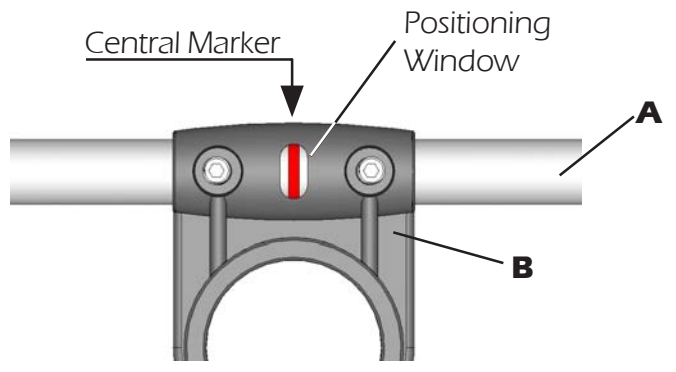
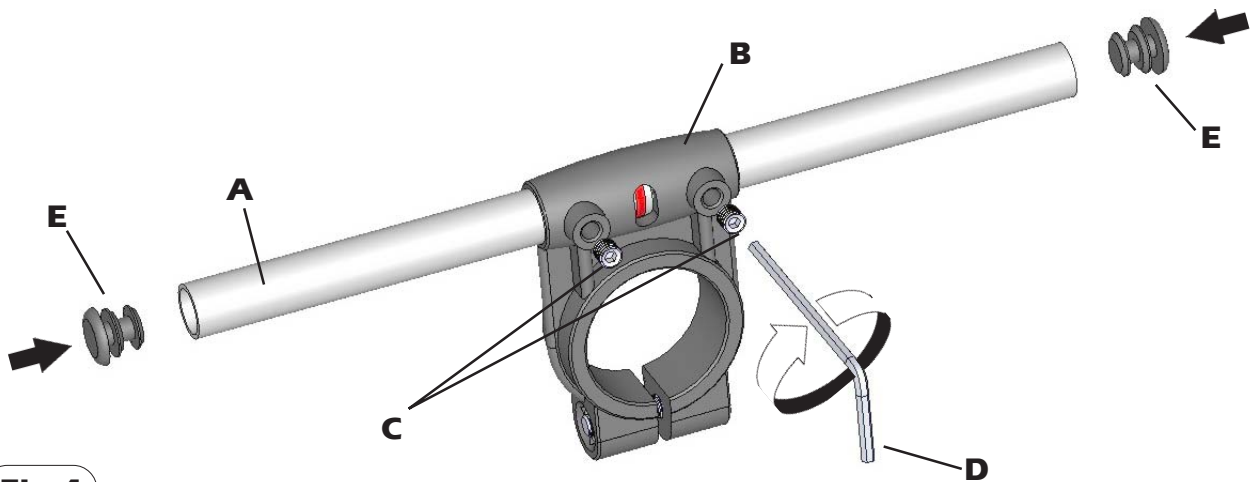

Fig.3
Fig.4
- 2) Place the reference marker of the aluminium element **A** in the centre of the plastic support **B** (see **fig. 3**) and lock the screws **C** by the supplied key **D** (**fig. 4**). When the screws touch the aluminium tubes you can finally lock them turning for 1.5 turns.
- 3) Insert the plastic caps **E** on the aluminium elements **A** (see **fig. 4**)